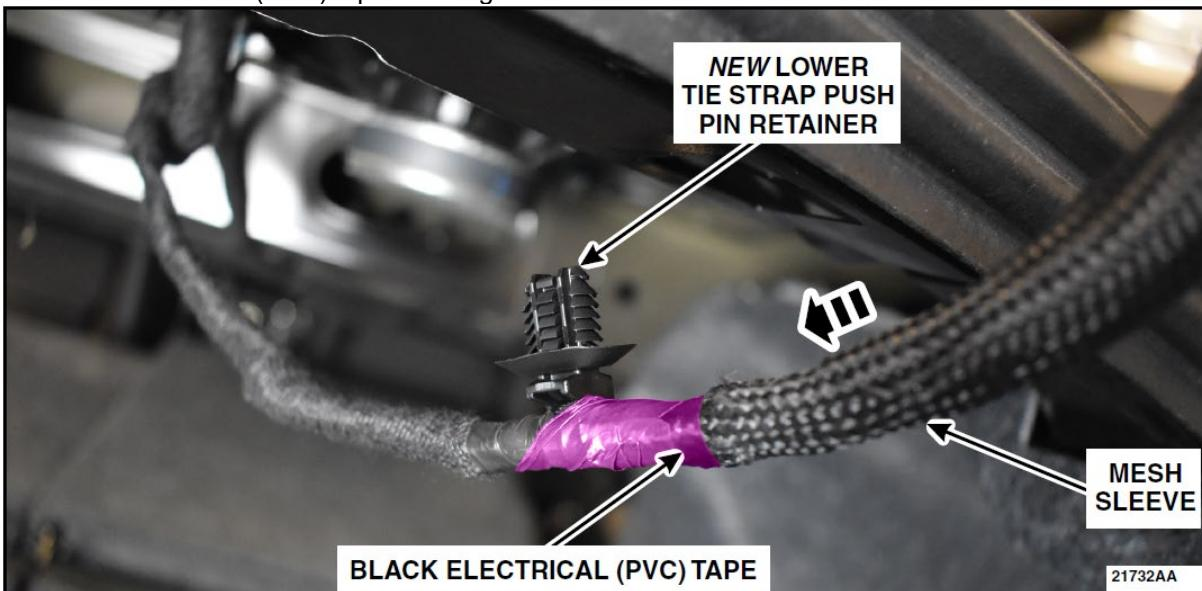

FIGURE 26
35. Slide the mesh sleeve down to the new lower tie strap push pin retainer and secure using some KTI73510 or equivalent black electrical (PVC) tape. See Figure 26.